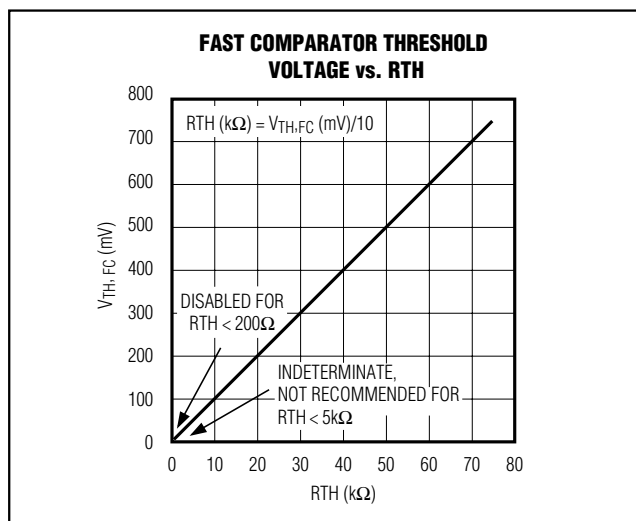

Figure 7. Fast Comparator Threshold vs. RTH
The fast comparator threshold is determined by the external resistor connected at RTH. To select threshold voltages between 50mV and 750mV, use resistor values between 5k Ω and 75k Ω according to Figure 7.
- Select RTH from Figure 7, RTH = 10k Ω